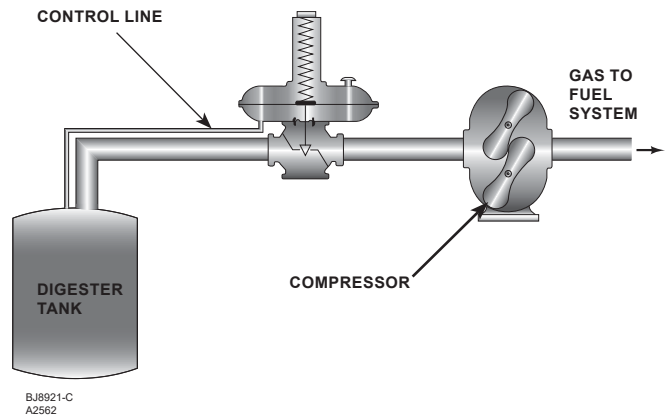

Figure 3. Type 66R Relief Valve Installation at Outlet of Sewage Treatment Plant Digester Tank
- An upstream control line is not required for a standard Type 66R relief valve with internal registration through a stem guide (key 41, Figure 6). However, for an optional Type 66R relief valve with sealing diaphragm (key 14, Figure 6), connect a control line to the 3/4 NPT tapped connection boss on the diaphragm case (key 3, Figure 6) as shown in Figure 3.